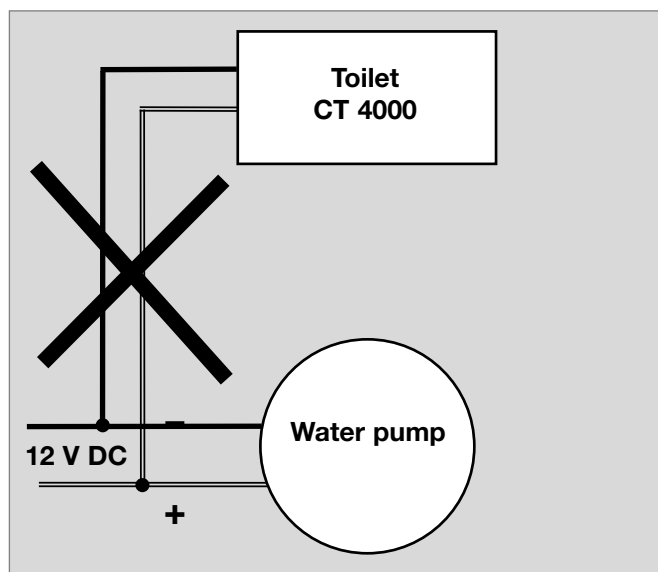

Fig. 32
- The toilet must not be directly connected in parallel to other electrical circuits, otherwise malfunctions or damage to the toilet controller can occur (Fig. 32).